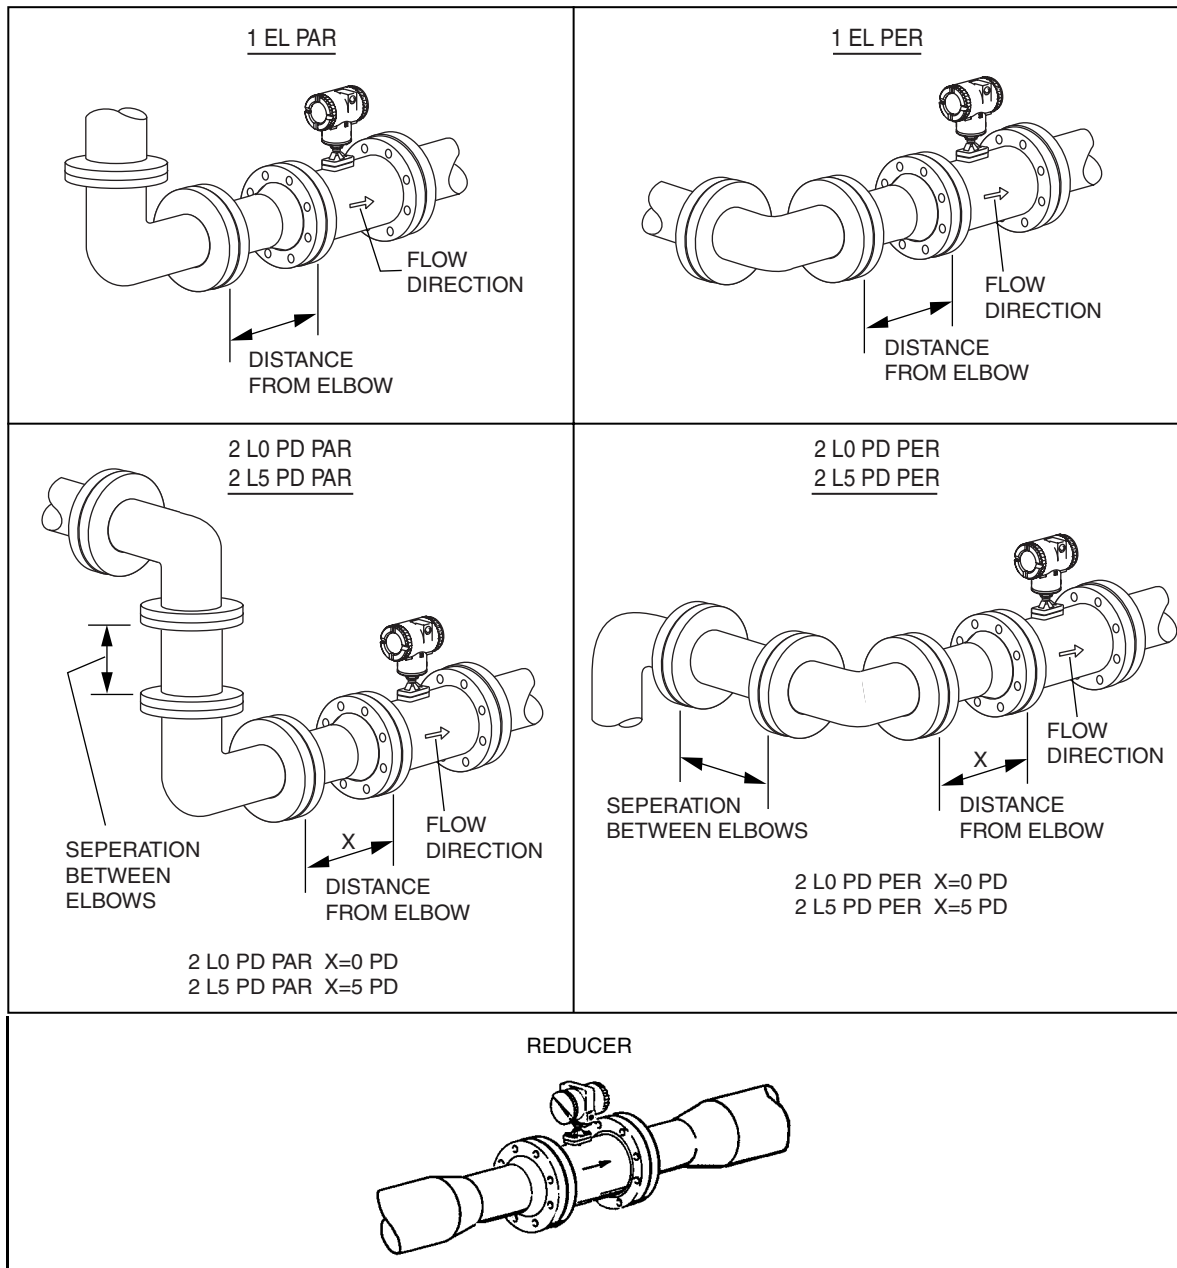

Figure 24. Piping Configurations
- ◆ In **4 Config**, select the upstream piping configuration from the following picklist (see Figure 24):